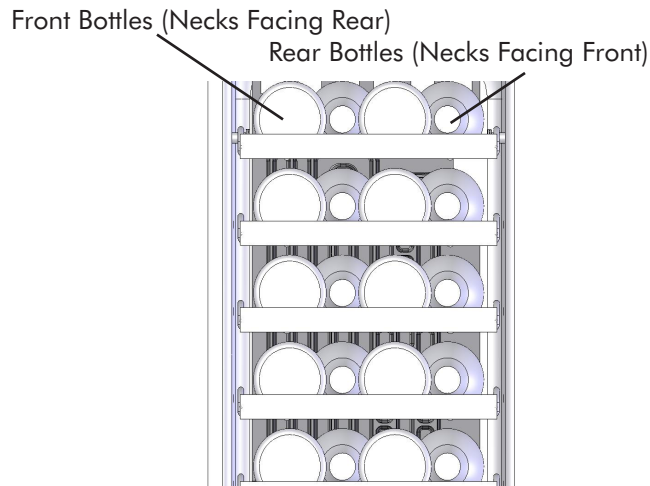

Figure 11
The five (5) pull-out shelves each hold four (4) bottles. See Figure 11 for typical wine bottle spacing. Tall bottles should not be loaded on the bottom rack because they may prevent the door from closing. Also, there is a fixed, wooden, bottle cradle in the bottom, step section of the cabinet. Three (3) bottles may be stored there.